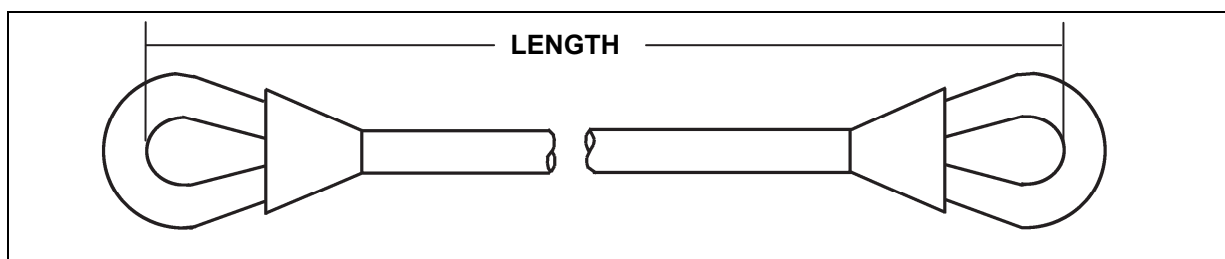

Figure 6-6. Sling Leg Measurement
- Nylon Rope Assembly.** The nylon rope assembly is made from double-braided nylon rope with an eye splice at each end. Cutting and splicing of the rope is carefully controlled to produce an assembly which is approximately 12 feet long. During manufacture, the outer braid is covered with a liquid nylon which, when dry, provides protection against scuffing and shields the rope against ultraviolet radiation. This process and other environmental conditions during shipment and storage can result in considerable shrinkage in the rope assembly length. Much of this shrinkage is temporary and the specified length should be restored with use. To ensure proper load distribution, the variation in length of the rope legs used in a sling assembly depends upon the load configuration and should not exceed the guidelines in table 6-2 and paragraph 6-3e. Individual sling leg length is measured from inside of one eye to the inside of the other eye, while being manually pulled taut (figure 6-6). The 10,000-pound capacity sling set has olive drab colored ropes while the 25,000-pound capacity sling set ropes are black. Each sling leg assembly has one-fourth of the capacity of the complete sling set. Therefore, the capacity of one sling leg from a 10,000- and 25,000-pound sling set is 2,500 and 6,250 pounds, respectively. Outer jacket yarns in the olive drab 2,500-pound capacity rope are identified by a braided strand about 3/32 inch in diameter. In the black 6,250-pound capacity rope, yarns are about 1/8 inch in diameter. An additional polyurethane coated outer braid is used as a thimble at each eye splice to protect the nylon rope from cuts or abrasion. Polyurethane is also potted into the V-shaped